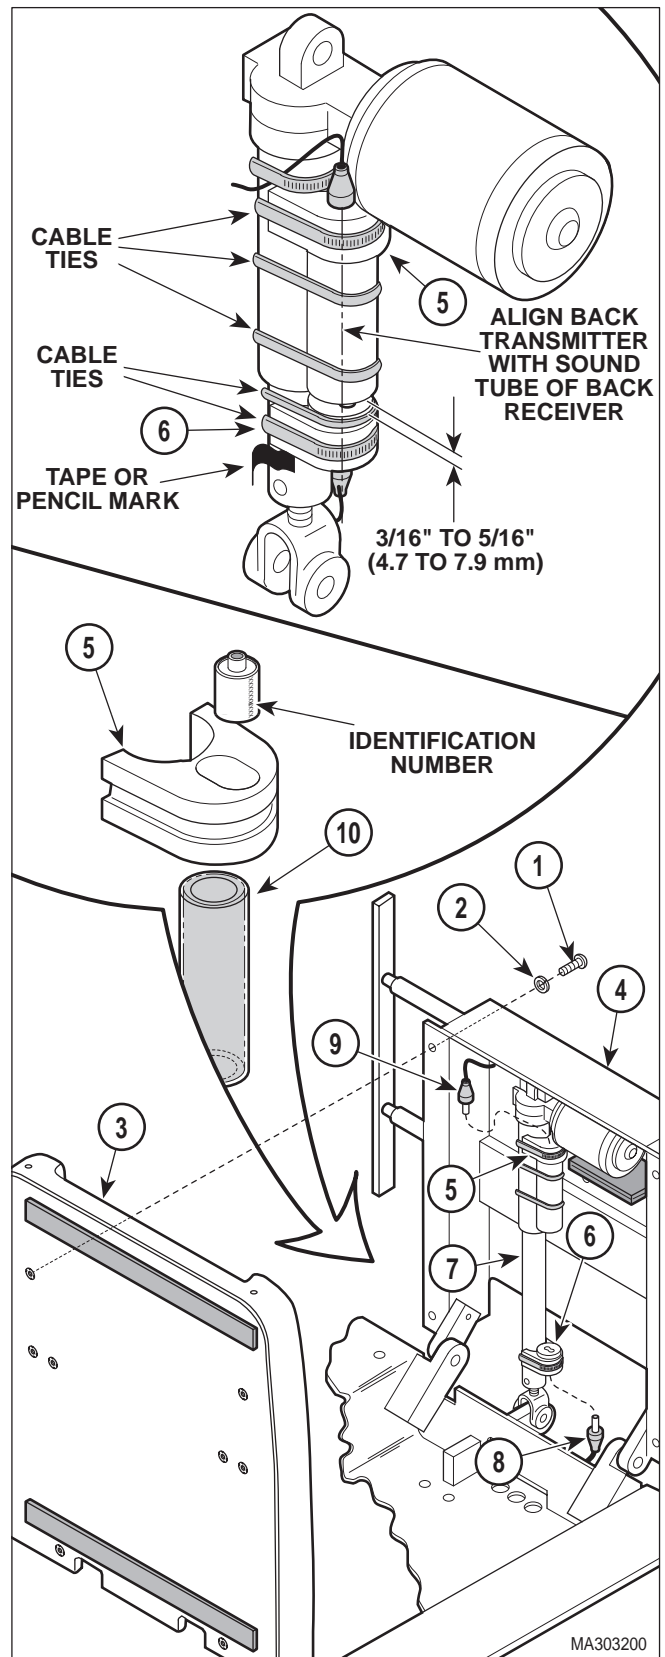

Figure 4-11. Back Actuator Receiver and Transmitter Removal / Installation
- (2) Unplug table power cord from wall outlet.
- (3) Remove four screws (1, Figure 4-11), lockwashers (2), and backrest assembly (3) from back weldment (4).